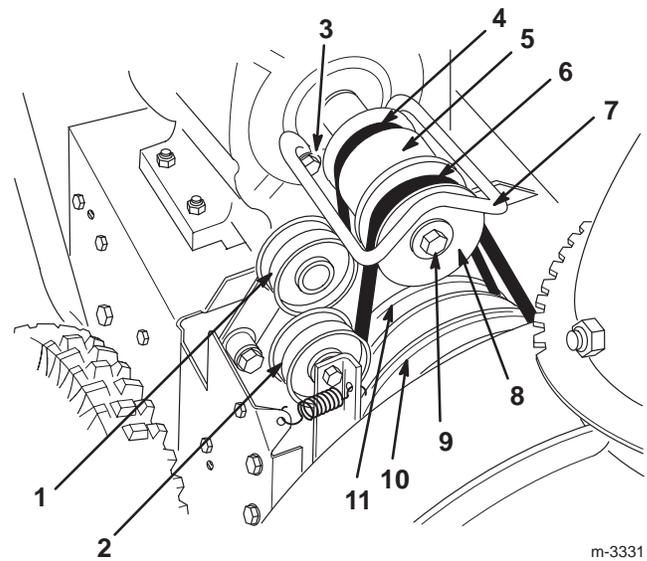

Figure 31
6. Remove 2 bolts, 2 washers, and 2 lock washers that secure the belt guide (Fig. 31).
7. Remove the engine crankshaft bolt, lock washer, and washer (Fig. 31).
8. Separate and remove the engine pulley sheave (Fig. 31).
10. Remove the engine pulley (Fig. 31).
11. Remove the traction drive belt from the traction pulley and the engine crankshaft (Fig. 31).
12. Pull the traction idler pulley outward and install a new traction drive belt (Fig. 31).
14. Pull the idler pulley outward and loop the auger/impeller drive belt in front of the engine pulley, ensuring that the belt is on the inside of the idler pulley (Fig. 31).
6. Remove the 2 bolts, 2 washers, and 2 lock washers that secure the belt guide (Fig. 31).
9. Remove the auger/impeller drive belt (Fig. 31).
10. Pull the idler pulley outward and install a new belt around the large auger/impeller pulley (Fig. 31).
11. Loop the belt in front of the engine pulley, and ensure that the belt is on the inside of the idler pulley (Fig. 31).